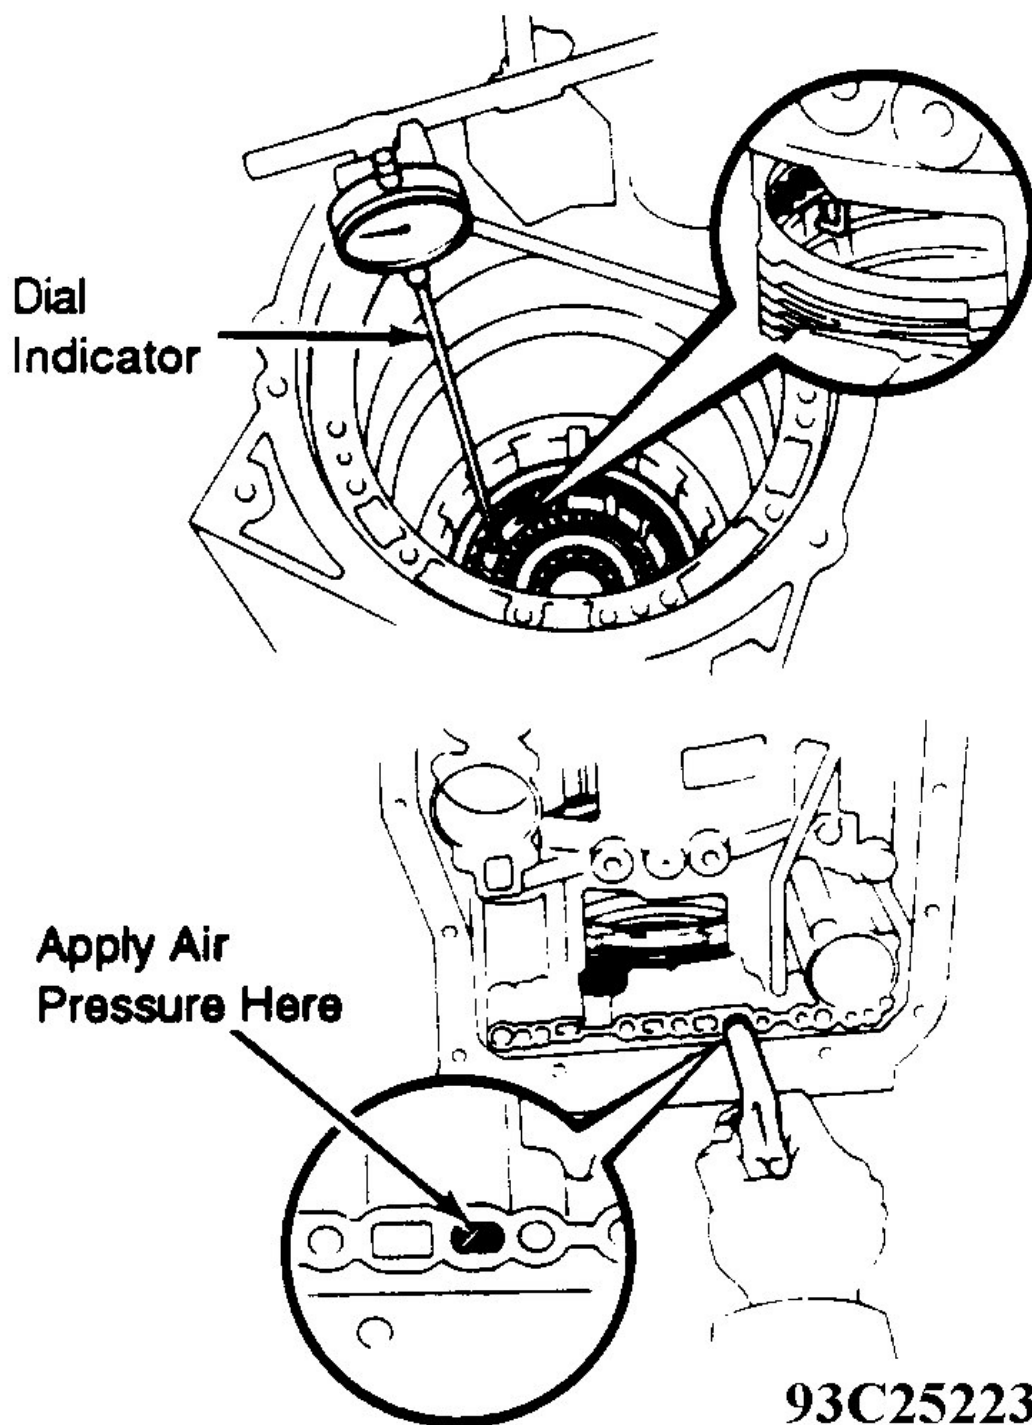

Fig. 10: Checking 1st & Reverse Brake Piston
18. Using Spring Compressor (09350-06130) and dial indicator, measure piston stroke of 1st and reverse brake piston by applying compressed air. See **Fig. 10**. Piston stroke should be .1299-.1496" (3.30-3.80 mm). If piston stroke is not within specification, inspect discs.